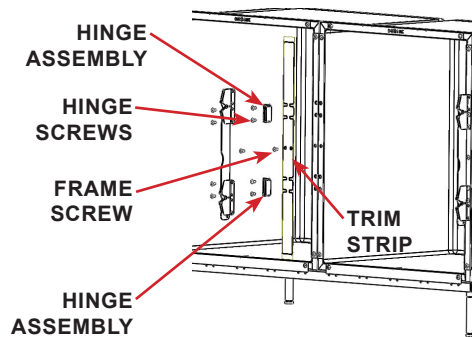

FIGURE 2.29 - Hinge Removal
**STEP 19:** Remove the screws holding the hinges and the center frame screw between the hinge assemblies from the recently added cage. See FIGURE 2.29
**STEP 20:** Install the trim strip underneath the hinge assemblies and thread the center frame screws, do NOT fully tighten. See FIGURE 2.29